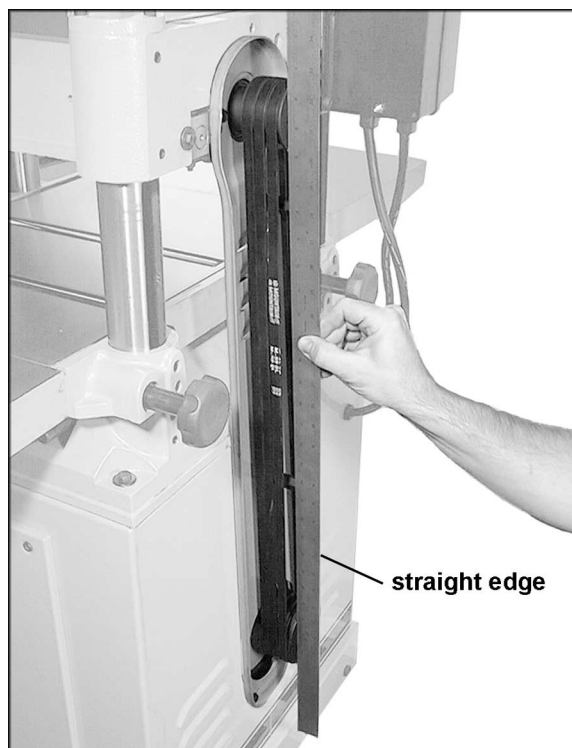

Figure 13
1. Remove the belt guard and place a straight edge against the faces of both pulleys (Figure 13).